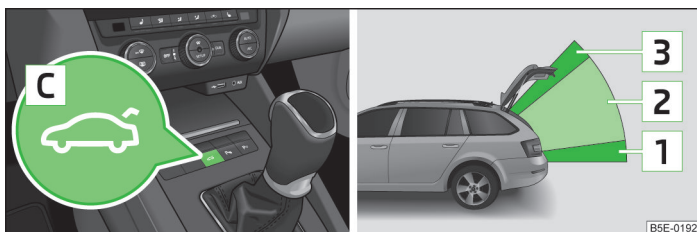

Fig. 22 Lid operation/operating areas
- With the button **C** in the centre console » Fig. 22.
The system distinguishes 3 operating areas where the function of the individual operating elements changes » Fig. 22. The end positions of the lid - fully closed in the secured lock and fully opened - differ as well.
Interrupted tone	Opening (with the button  on the remote control key or with the button  » Fig. 22 on page 39) Automatic closing of the lid » page 38,  in section Introduction